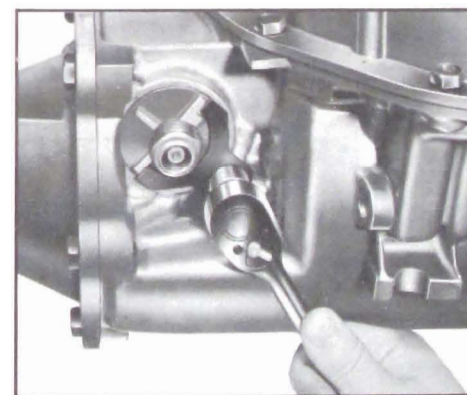

Figure 5-753
2. Install the speedometer driven gear retainer and attaching bolt. See Figure 5-753.